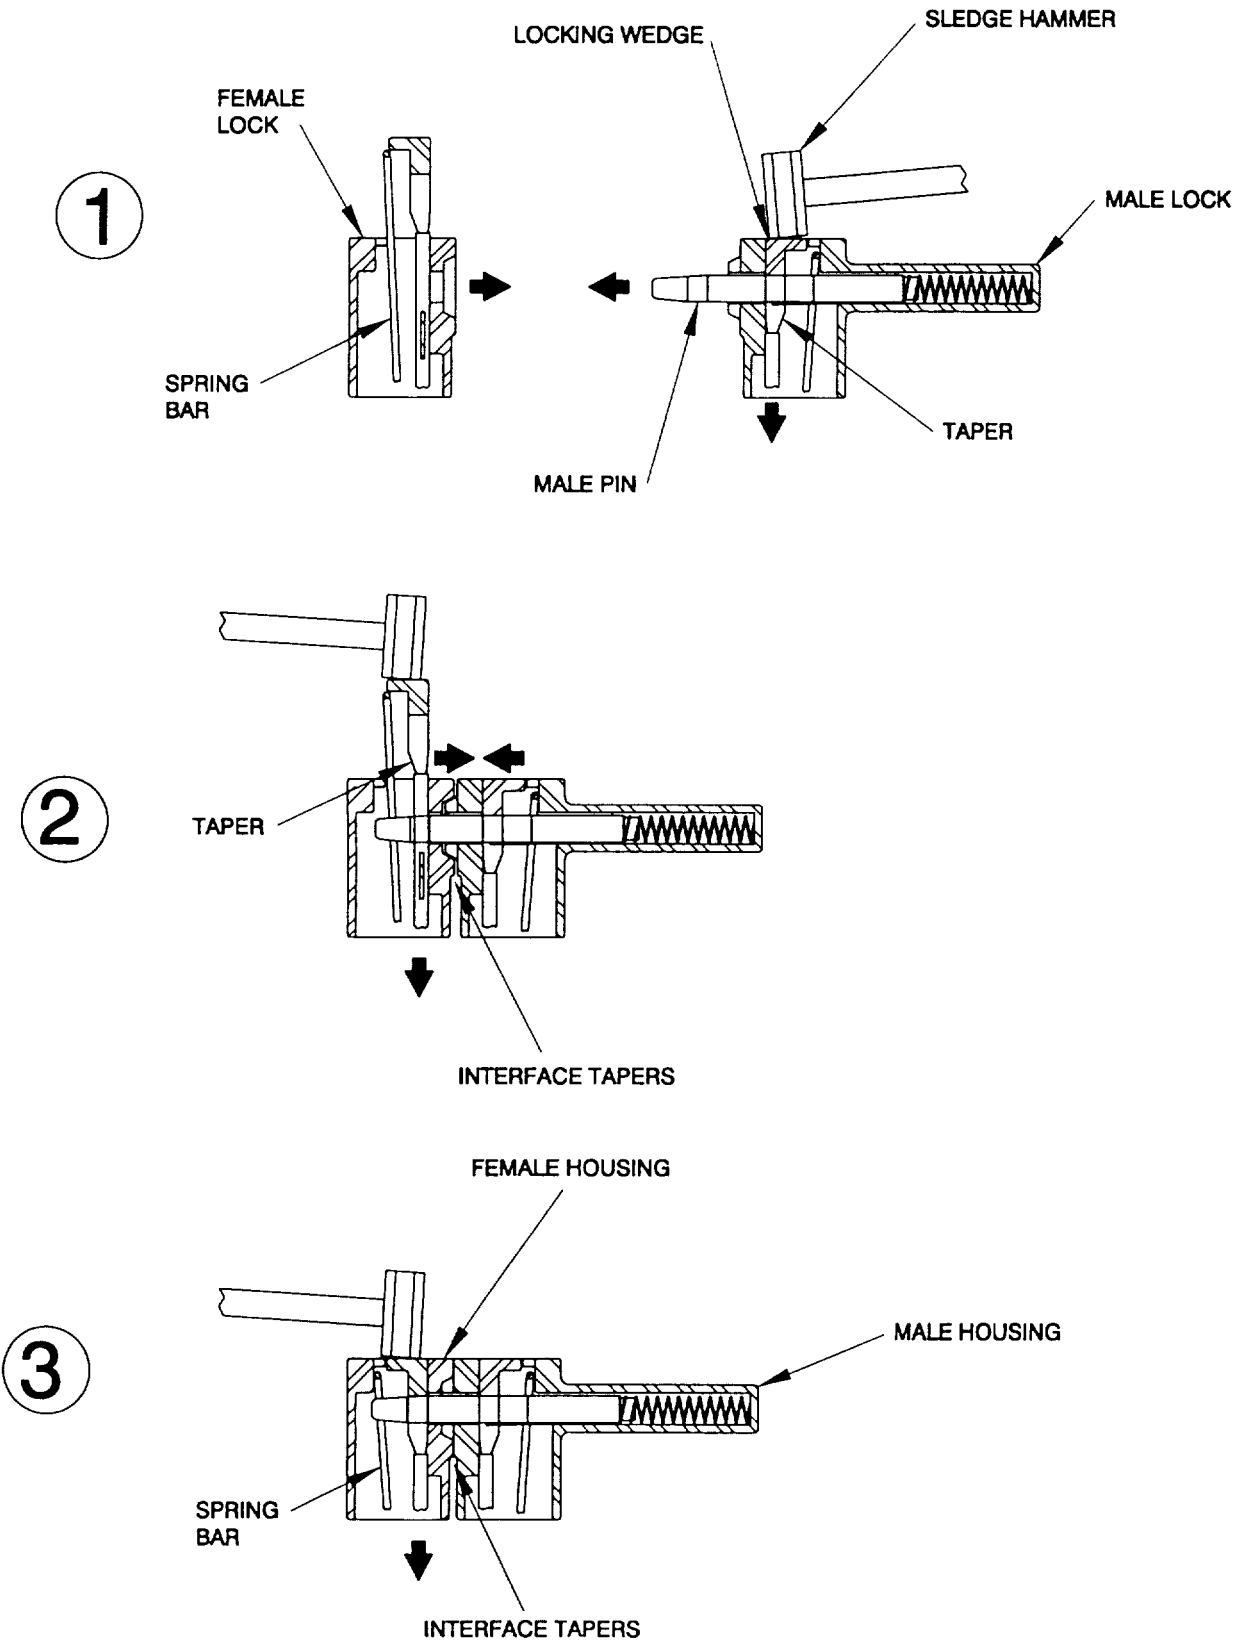

Figure 2-39. Interconnection Steps.
- d. Step-by-step procedure for connecting MCF lock assemblies (Figure 2-39).